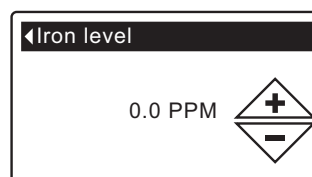

FIG. 43
5. Press the OK/MENU button to display the Iron level screen (See Figure 43).